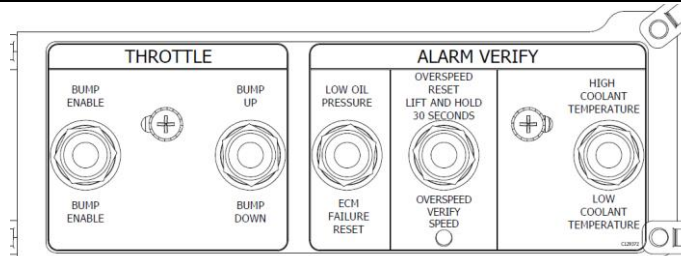

Figure 1 – Clarke panel internal verification switchplate
- Hold the OVERSPEED VERIFICATION SWITCH in the “down” position located on the switchplate inside of the Clarke panel (see Figure 1). This will provide the main pump controller with an overspeed signal and engine shutdown at 30 RPM’s below the rated RPM.
- With the engine running from the main pump controller, lift the LOW OIL PRESSURE VERIFY SWITCH in the “up” position located on the switchplate inside of the Clarke panel (see Figure 1). The oil pressure signal will be defaulted to less than 20 psi and can be seen on the engine diagnostic gauge. (Note: There is no engine mounted Low Oil Pressure switch to jumper across).
- With the engine running from the main pump controller, lift HIGH ENGINE COOLANT TEMPERATURE VERIFY SWITCH in the “up” position located on the switchplate inside of the Clarke panel (see Figure 1). The coolant temperature signal will be defaulted to greater than 250°F and can be seen on the engine diagnostic gauge. (Note: There is no engine mounted High Coolant Temperature switch to jumper across).
- Place BOTH ECMs back into service by activating the ECM FAILURE RESET SWITCH, located on the interior switch plate of the engine instrument control panel (See Figure 1), for 3 seconds.
- With the engine NOT running (0 rpm), hold the low engine coolant temperature switch in the “down” position located on the switchplate inside of the Clarke panel (see Figure 1). The coolant temperature signal will be defaulted to less than 90°F and can be seen on the engine diagnostic gauge. (Note: There is no engine mounted Low Coolant Temperature switch to jumper across).